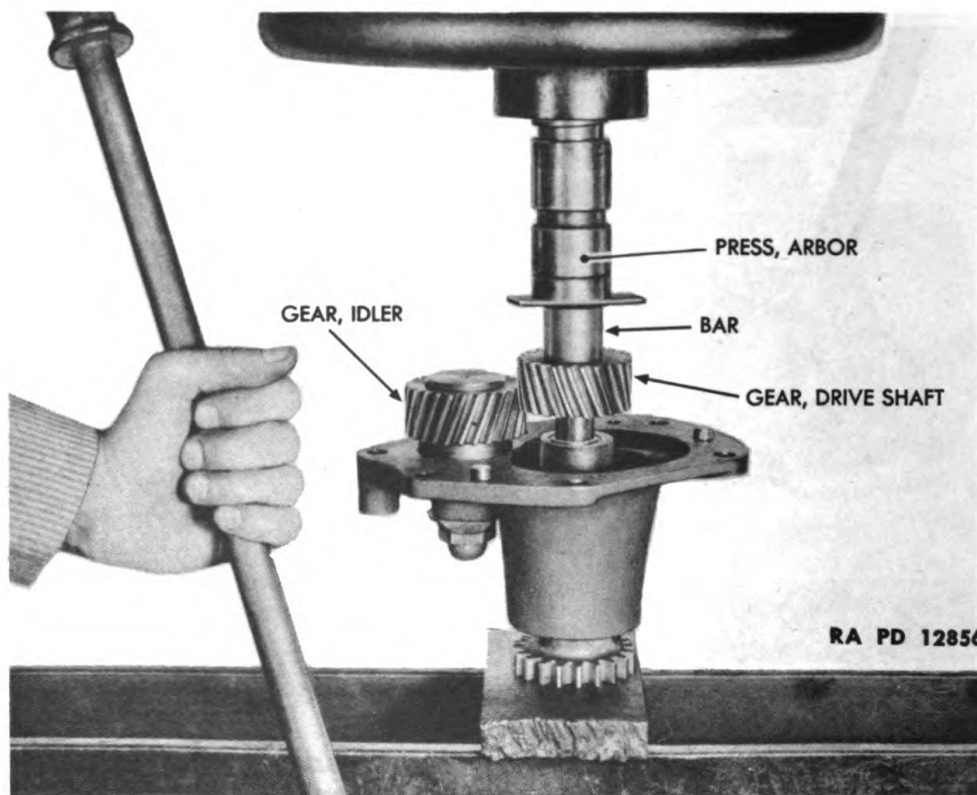

Figure 134—Drive Gear Installation Using Arbor Press
(3) INSTALL DRIVE SHAFT GEAR (fig. 134).